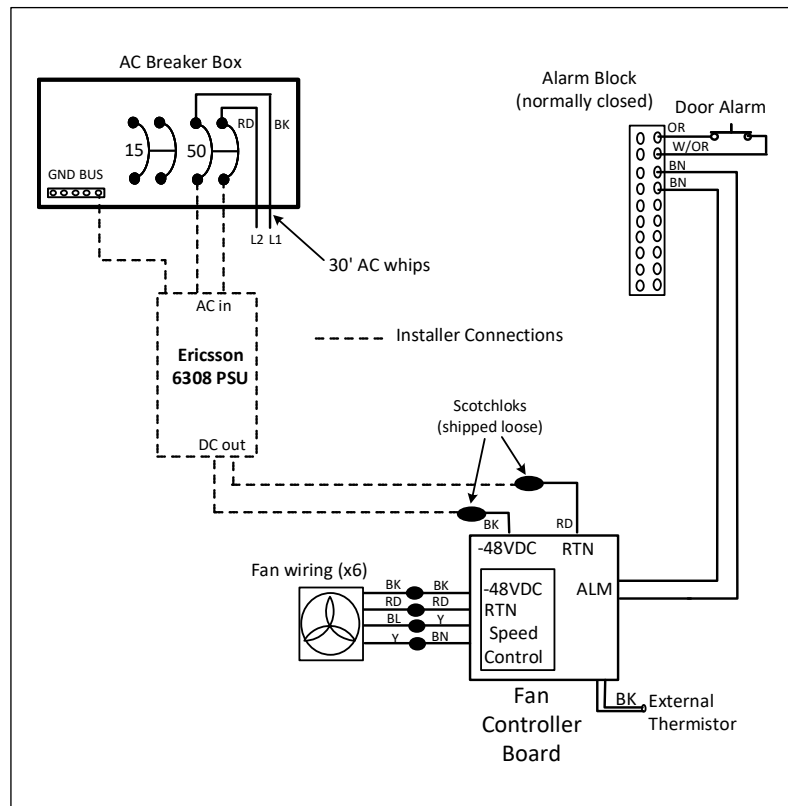

**Figure 13 Power Supply**
13. Use four Keps nuts to mount the power supply and bracket to the power supply base plate (Figure 13).